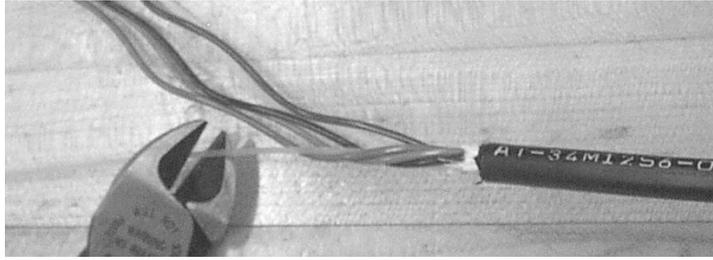

Figure 30 – Cut the central strength member.
5.17 Consult the splice closure instructions to determine the length of central strength member that is required for strain relief. Separate the central strength member from the buffer tubes and cut it to the required length (Figure 30).